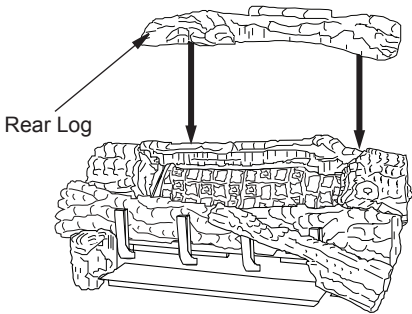

Figure 35 - Installing Rear Log
- Rest rear log in back corner sections of chassis assembly as shown in Figure 35, page 19.